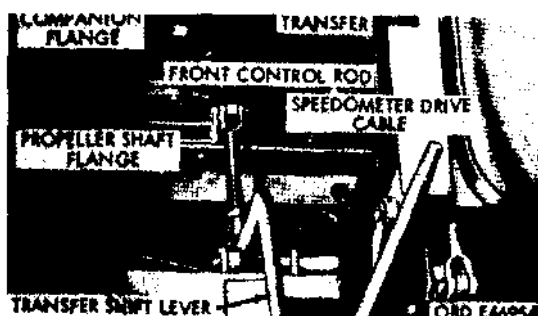

Figure 195. Top view of transfer front end from inside of cab
f. Disconnect transmission-to-transfer propeller shaft from transfer-input-shaft companion flange (fig. 195), refer to paragraph 160).
j. Remove cotter pin and yoke pin securing front control rod (fig. 195) to transfer shift lever.
l. Place the transfer shift lever (fig. 195) in the HIGH RANGE.
o. Connect transmission-to-transfer propeller shaft to transfer-input-shaft companion flange (fig. 195).